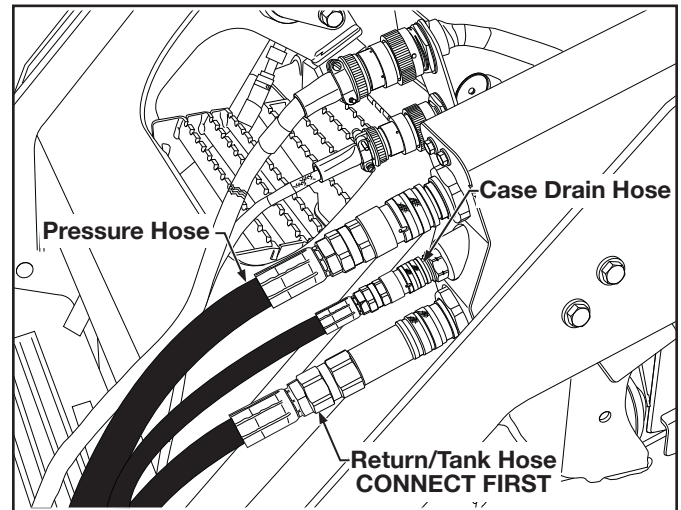

Figure 36. Hydraulic Hose Connections to Skid Steer
NOTE: Most skid steer's have the ability to reverse the hydraulic flow to the quick couplers. Care must be taken that the flow is always engaged the correct direction. (Refer to Figure 36.)
5. Roughly align one of the axis to the grade stakes by sighting over the top of the Rotating Laser (Refer to Figure 36.)